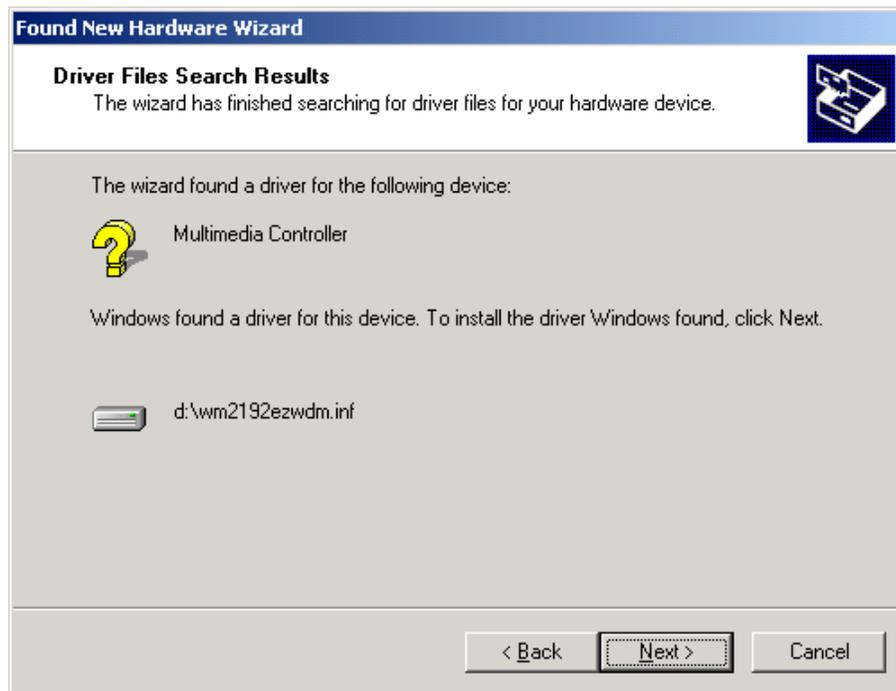

Figure 2-11: The wizard detects the driver information file.
5. The wizard should detect the driver's information file (INF), as shown in figure 2-11. Click **Next** to continue.